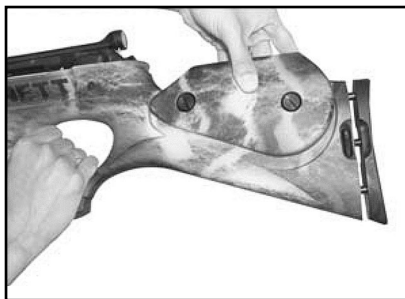

Fig 12
- Have you checked the tiller to see if any adjustments should be made? Tiller is the measurement between the base of the limb and the bowstring. The tiller measurement tells you if both limbs are equally stressed. Your bow is in proper tiller when this measurement is the same for both limbs. Uneven tiller will cause erratic arrow flight. All crossbows are accurately tillered at the factory prior to shipping. To adjust the tiller, use an allen wrench and measuring tape as shown in the illustration. **See Figure 12.**